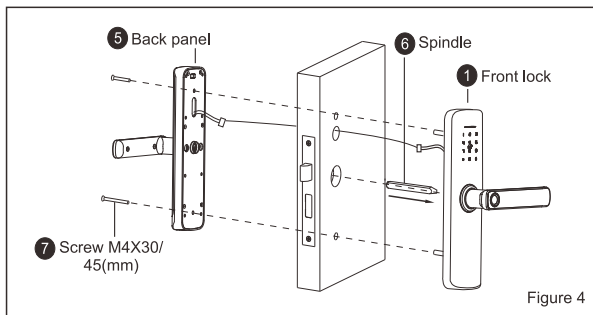
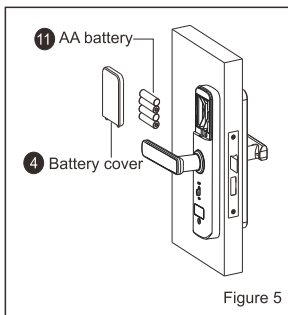

Figure 4
Figure 5
(4) As Figure 4:
- ① Insert the tapered end of the square shaft into the sleeve hole on the front panel.
- ② Make the front panel cable across to the door plate and connect to the back panel.
- ③ fix the front panel and back panel with two screws.
(5) As Figure 5:
- ① Put the Batteries correctly and fix the Battery cover.